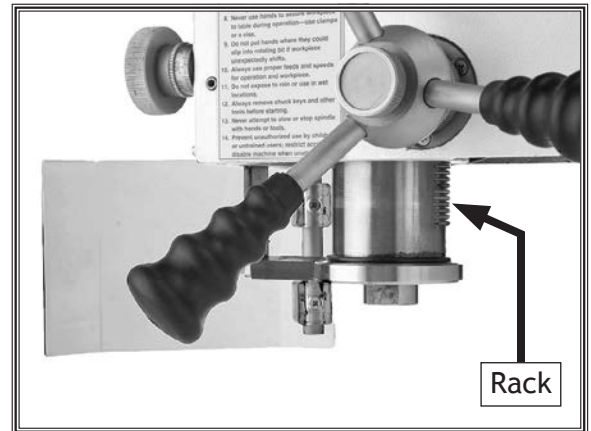

Figure 43. Quill rack location.
1. Move quill down to gain full access to quill rack (see **Figure 43**).